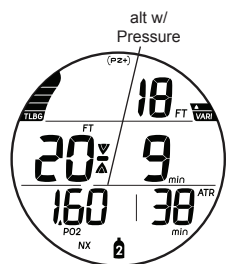

Fig. 113 - PO2 ALARM (while in Deco)
**High PO2 during Deco** (Fig. 113)